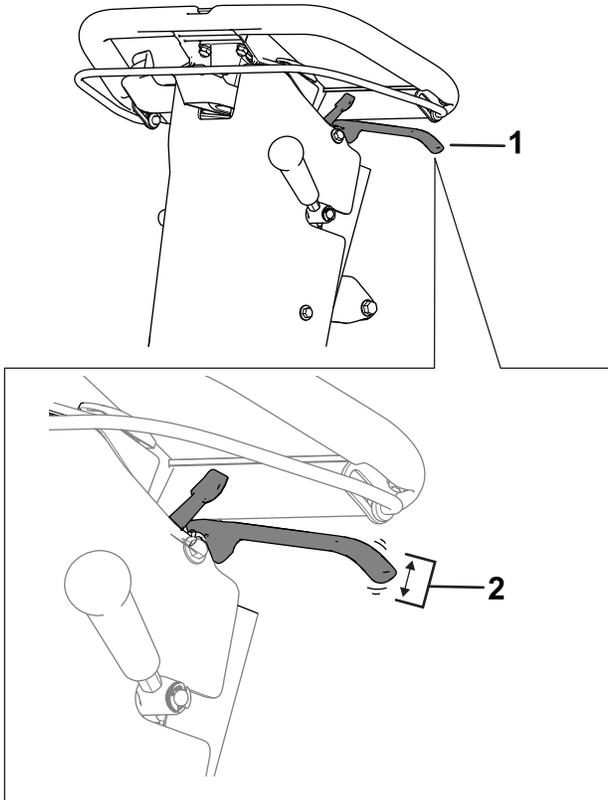

Figure 36
2. Measure the free play at the end of the parking-brake handle (Figure 36).